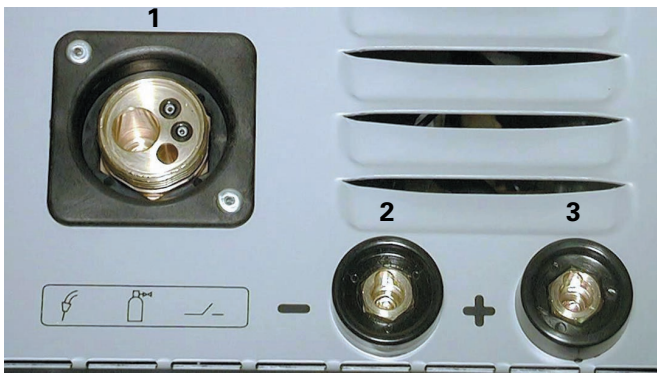

Figure 2
1. Your MTS 160 is designed to use standard 8" diameter 10 lb spools of welding wire. Remove the spool retaining nut (A) from the wire drive brake. Place the wire on the spool holder so it unravels from the bottom. Install the spool retaining nut (A) and tighten.
3. Swing the pressure release handle (1) down, and the pressure roller assembly (3) will swing up and out of the way.
4. Install the guide tube (8), which is taped to the bottom of the machine into the adapter block through the front of the adapter block. See figure 2 page 6.
5. Feed the wire into the inlet wire guide (4), across the drive roll (5), and into the guide tube (8). (At this time it is a good idea to check that the drive roll is set to the correct groove for the wire size you are using. If not, see Changing the Drive Roll.) Continue to feed the wire into the guide tube until two or three inches of straight wire protrudes from the front of the central adapter block. Note that the drive roller is designed to "float" on the shaft of the wire drive motor.
6. Swing the pressure roller assembly (3) back into position. Make sure that the wire is positioned in the groove of the drive roll (5). Unscrew the pressure release handle (1) until most of the pressure on the pressure roller has been released.